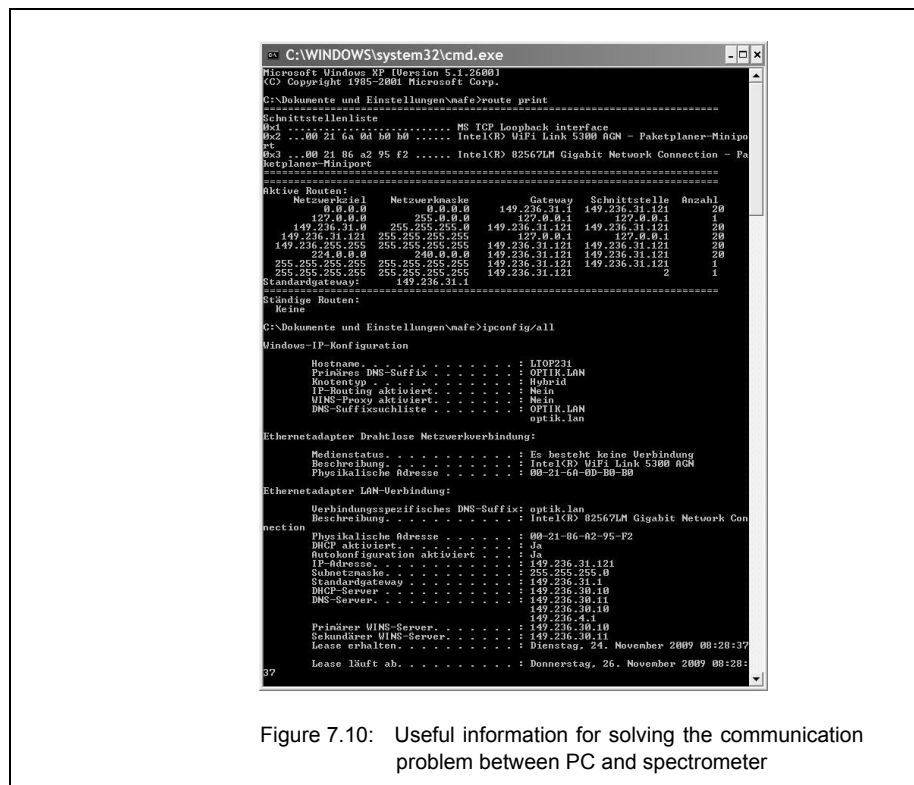

Figure 7.10: Useful information for solving the communication problem between PC and spectrometer
6. Take a screenshot of the dialog (fig. 7.10) and provide it for your network administrator.